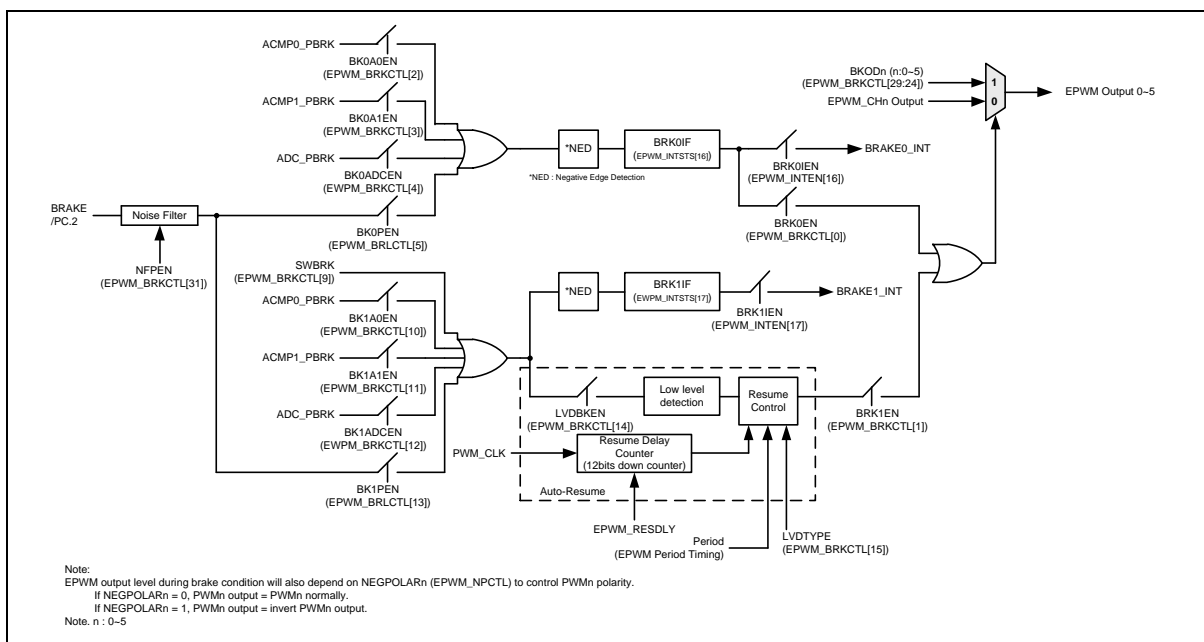

Figure 6.8-22 EPWM Brake Architecture
**Note:** For the BRKKnF's interrupt architecture illustration, see Figure 6.8-22.